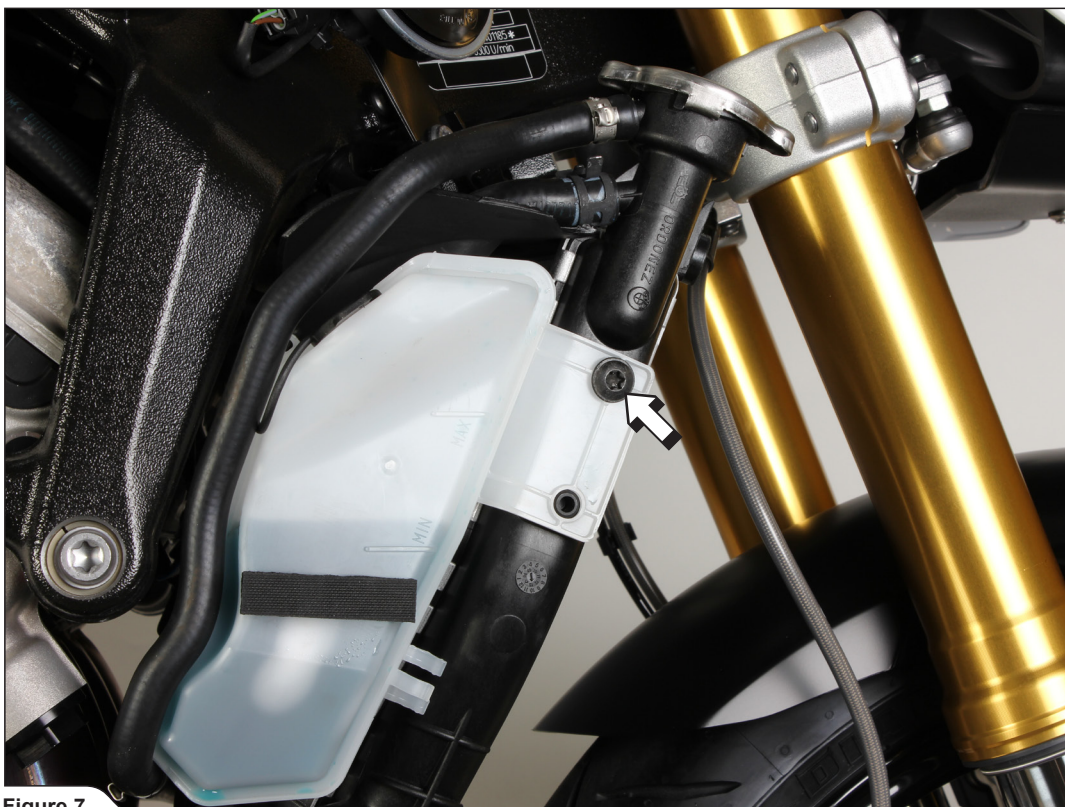

Figure 7
7. Unscrew the marked bolt and carefully move the expansion tank out of the way (Figure 7).